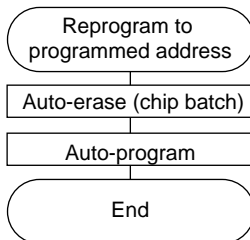

Figure 15-24 Reprogramming to Programmed Address
- When programming addresses which have previously been programmed, carry out auto-erasing before auto-programming (figure 15-24).